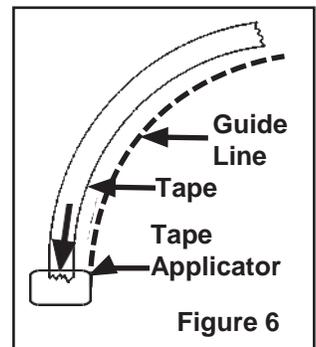

Figure 6
**Note:** For curved lines, apply the tape slowly around the arc of the curve (**Figure 6**).